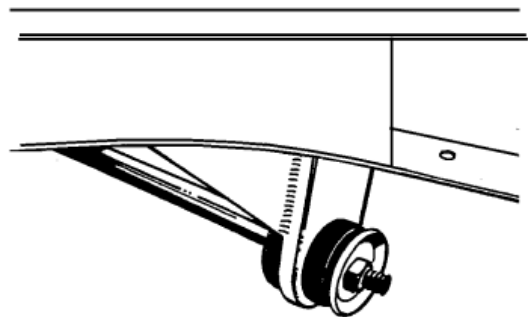

Figure 7- Strut Rod Install
10. Install the strut rod onto the control arm. Now, assemble onto the strut rod the large rubber bushings, including the cupped washers, and the strut mount plate. Be certain to fully tighten the nut on the strut rod to its fully seated position. (**See Figure 7**) There are two rubber bushing sets available; the standard replacement and the improved set. We recommend the improved set, as it provides more stability to the front suspension. The Pinto and Mustang strut rods are different lengths. We recommend the use of Pinto strut rods, as they are bent less than the Mustang strut rods. You will find that with either strut rod the strut rod plate does not line up with the bottom of the frame rail. The strut rod must be heated in the elbow area and bent outward. The rod is bent outward until the strut mounting plate lines up to the frame rail. You will find that because the Pinto strut rod is initially bent less and requires much less bending. The strut rod will act as an alignment fixture while you tack weld the mount plate in place, then tack weld the gusset in place. Remove the strut rod, bushings, and arm, and finish welding to the frame and each other.